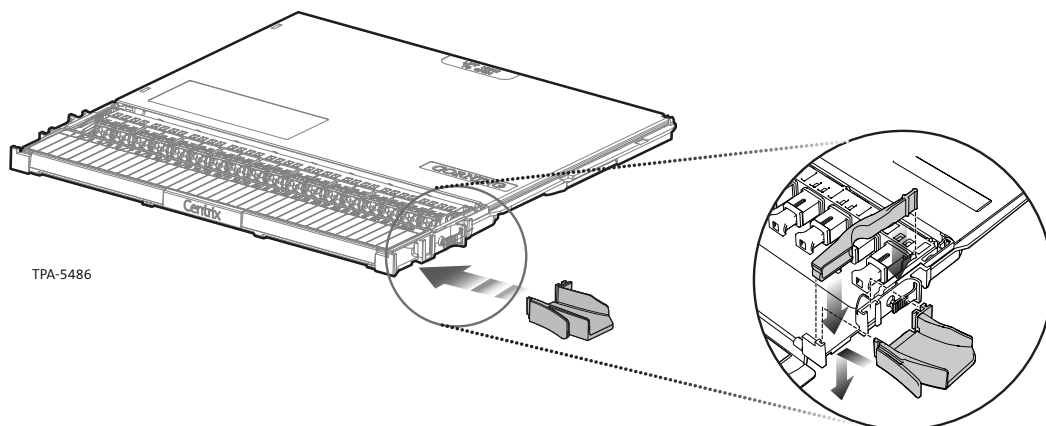

Figure 6
Step 1: In a 19-in rack or 23-in frame installation only, distribution jumpers may be routed out either side of the cassette to their destination. If routing jumpers to the right, install right-hand waterfall kit (CTX-KIT-RT-DH) to support the jumpers (Figure 6).
- In a 19-in rack or a 23-in frame, jumpers may route to the left, to the right, or in both directions. If routing jumpers out the right-hand side of the cassette, install the optional right-hand waterfall kit (CTX-KIT-RT-DH) as shown in Figure 6.